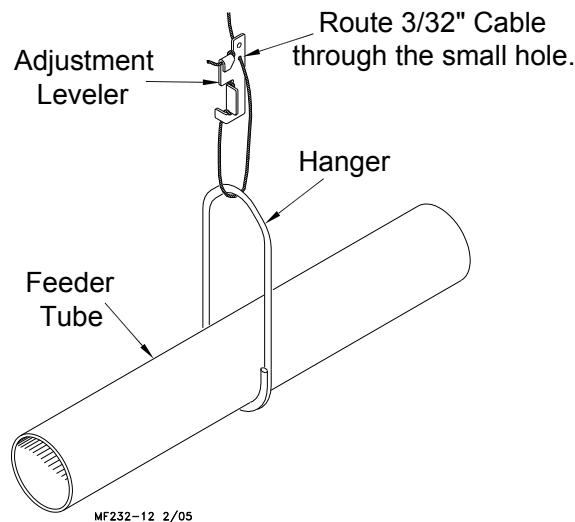

Figure 32. Adjustment Leveler and Hanger Installation.
6. Install the hangers on the tubes on 8' (2.4 m) spacings determined by the suspension drop lines. **Figure 32** shows the proper installation of the hanger assembly. Make sure the outlet drop hole is down when the hangers are installed, otherwise feed will not be allowed to drop into the feeder pan.
7. Install the adjustment leveler within 6" (152 mm) of feeder line hanger. **Figure 32** shows the proper cable routing around the adjustment leveler.